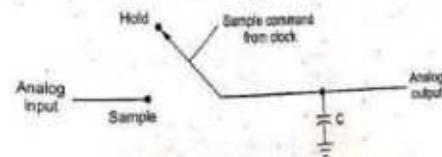

Fig. 6.5.2 Principle diagram for sample and hold circuit
- The Fig. 6.5.2 shows the basic sample and hold circuit.